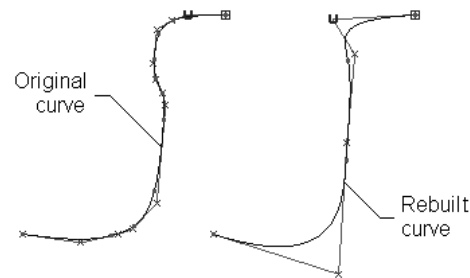

Figure 7-28 Original and rebuilt curves
The **Rebuild curve** tool is used to reconstruct an existing curve with different mathematical properties such as spans, degree, and so on. Rebuilding a curve is necessary for simplifying it. For example, you can remove multi-knots in a curve by rebuilding it. However, you cannot change the shape features of the curve by using this tool. To rebuild a curve, choose the **Rebuild curve** button from the **Curve Edit** tab in the **Palette**; you will be prompted to select the curve(s) to rebuild. Select the curve(s) from the active window; a new curve will be created with different mathematical properties. Figure 7-28 shows the original and rebuilt curves.
*The rebuild curve lies on the original curve. You can move the rebuilt to other position to distinguish it from the original curve, refer to Figure 7-28. The change in mathematical properties of a rebuild curve can be viewed by checking the number of spans and degrees in the **Control Panel**. Also, you may need to adjust the tolerance value for analyzing the effect of the **Rebuild curve** tool, as discussed in the **Duplicate curve** tool.*